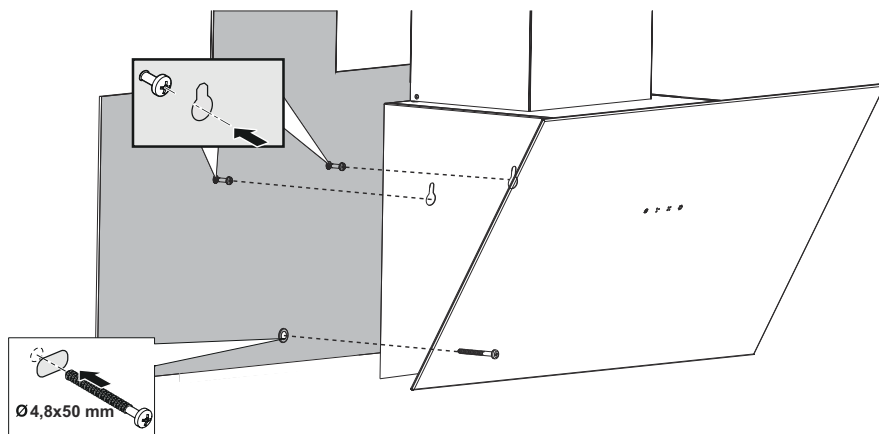

Fig. 13
1. ► Hold the device by its body and attach it to the hanger screws that you have previously screwed into the wall and tighten the hanger screws (Fig. 13).
2. ► Fix the device to the wall with one 4.8x50 screw through the mounting hole on the inside of the device (Fig. 13).